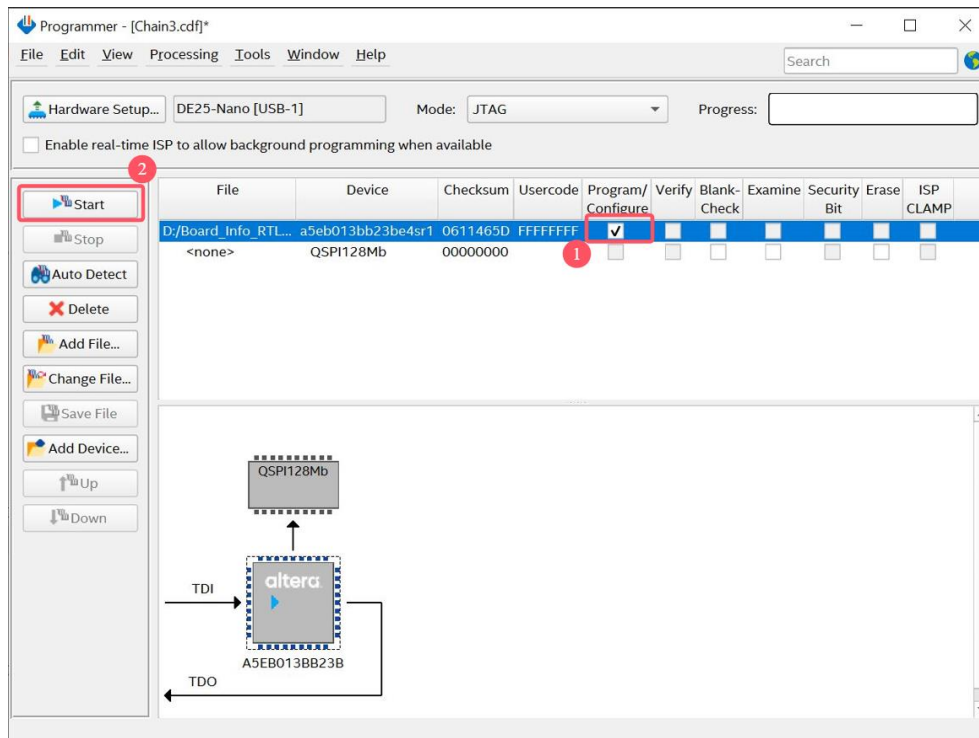

Figure 4-7 Download .sof file
8. Click “Program/Configure” check box, and then click “Start” button to download .sof file into FPGA, as shown in **Figure 4-7**.